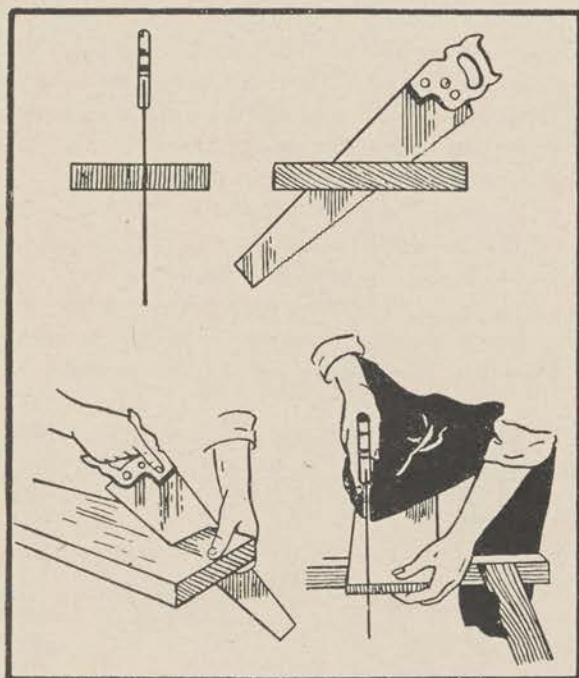

Figure 70.
b. Always mark on the wood the line to be sawed. Try to cut along the outside edge of this line rather than on the line itself. This is the only way to insure accurate work. The lumber must be held firmly on saw horses, boxes, or a bench. The saw is held at about a 45° angle to the work and the first cut is made by drawing it towards you several times. As the sawing approaches its end, hold the piece that is being cut off so that it will not split away. The most difficult part of sawing for the beginner is learning to hold the blade vertical so that the edge of the cut is square. This is largely a matter of feeling and experience, though sighting along the blade as you work will help (fig. 70).